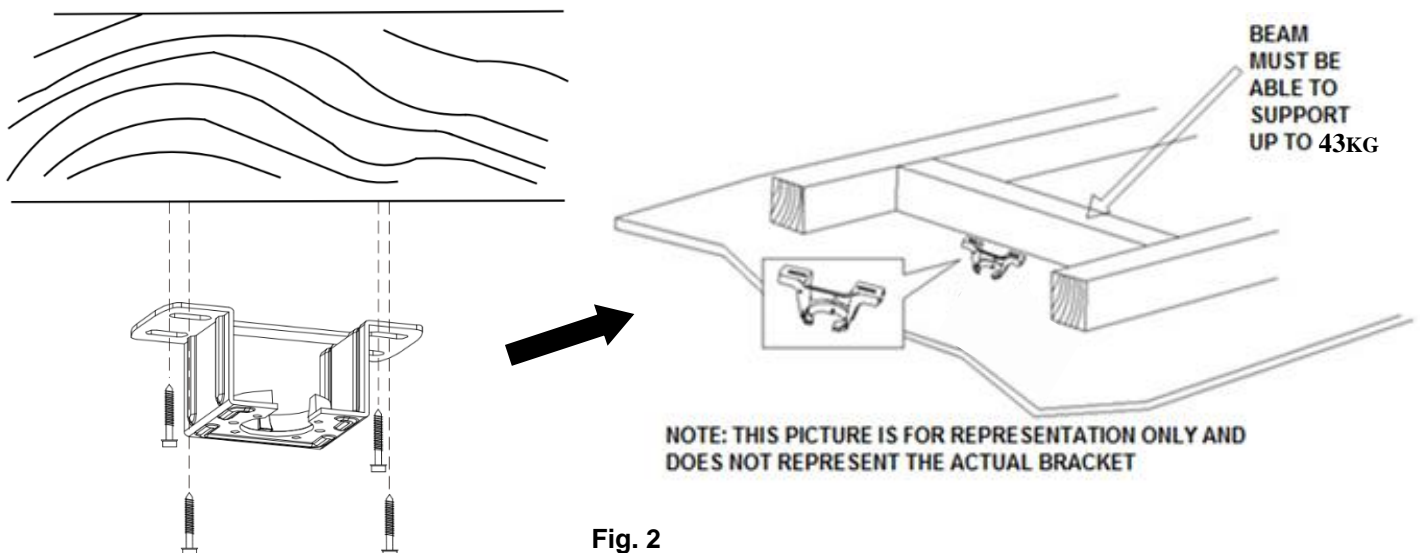

Fig. 2
- Install the hanging bracket to the ceiling joist or structure that is capable of carrying a load of at least 43kg, with four long screws provided. Ensure at least 30mm of the screw is threaded into the support. (Fig. 2)